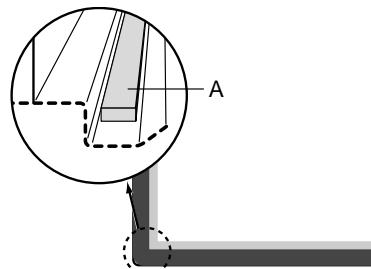

fig. 6
- Stick the sealing strip supplied (A) onto the underside of the hob (see fig. 6).